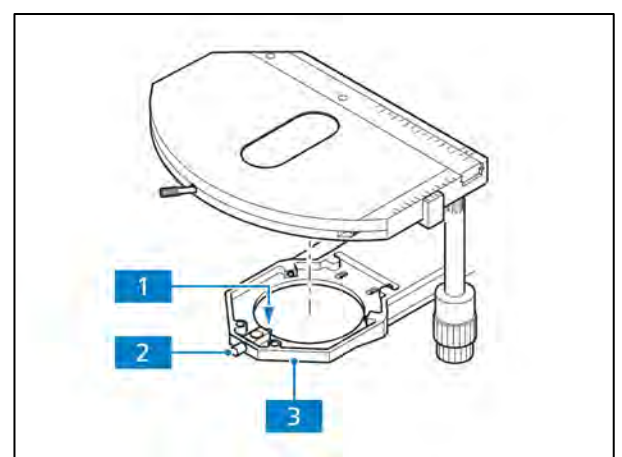

Fig. 3-12 Changing the rotatable mechanical stage
- Loosen the screw cap (Fig. 3-12/2) of the spring pin with approx. 3 turns.
- Press the stage forward against the spring pin (Fig. 3-12/1), lift the back side off the stage carrier (Fig. 3-12/3) and remove it by lifting it upward.
- Tighten the screw cap (Fig. 3-12/2).
- Loosen the screw caps (Fig. 3-12/2) of the spring box with approx. 3 turns.
- Put the stage with the dovetail ring notch onto the spring pin (Fig. 3-12/1).
- Press the stage forward against the spring pin and lower its back side into the stage carrier (Fig. 3-12/3).
- Tighten the screw caps (Fig. 3-12/2).